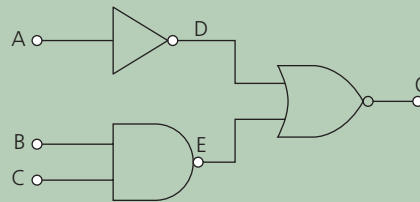

Figure Q2
2. As part of his project, a student constructs the logic circuit in Figure Q2.
- c. Copy and complete the truth table in Table Q2 for the logic circuit in Figure Q2.